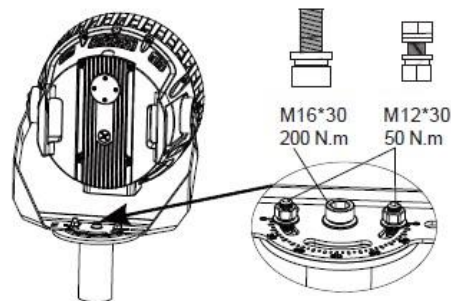

Figure 6
3. Once the horizontal angle is set, secure the fixture with (1) M16 and (2) M12 sets of nuts, bolts, and washers (not included) (Figure 6).